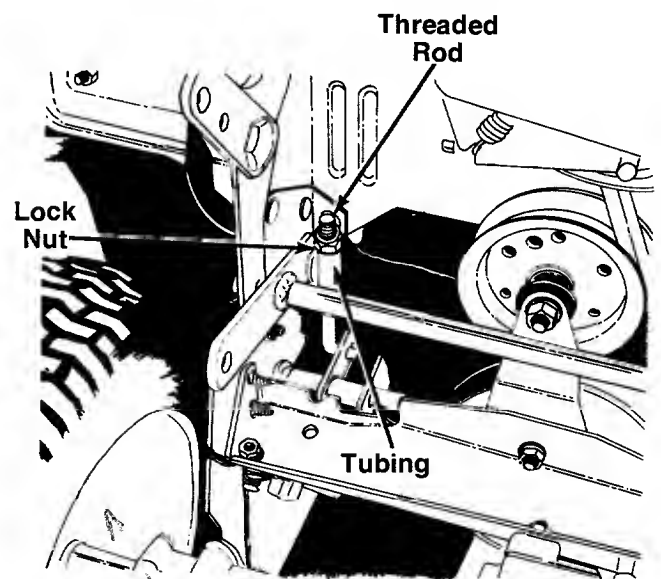

**FIGURE 15.**
2. Loosen the bolt which secures the shift lever assembly to the shift lever adjusting link. See figure 15.
3. Place the shift lever in the neutral slot. See figure 15.